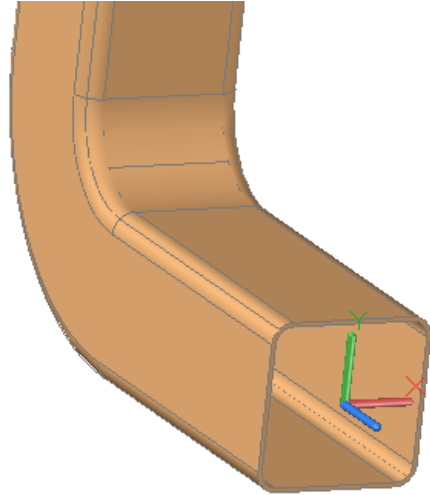

Figure Step 16A
Step 16 Using what you learned earlier in the eBook, use the SUBTRACT command to subtract the inner solid from the outer solid. (Figure Step 16A, 16B, and 16C)